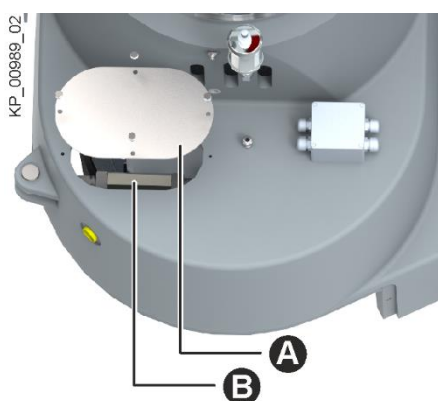

Fig. 63: Releasing the V-belts
- Remove the cover plate of the opening (Fig. 63/A) of the belt tensioner.
- Release the belt tensioner (Fig. 63/B) so that the V-belts are no longer tensioned.